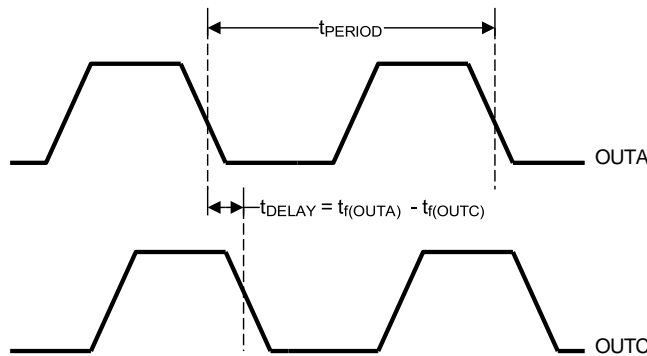

Figure 1. Same Applies to OUTB and OUTD
(2) Ensured by design. Not production tested.
(3) Output delay is measured between OUTA and OUTB, or OUTC and OUTD. Output delay is defined as shown below where: t_{r(OUTA)} = falling edge of OUTA signal, t_{r(OUTB)} = rising edge of OUTB signal (see Figure 1 and Figure 2).
(6) Output delay is measured between OUTA and OUTB, or OUTC and OUTD. Output delay is defined as shown below where: t_{f(OUTA)} = falling edge of OUTA signal, t_{r(OUTB)} = rising edge of OUTB signal (see Figure 1 and Figure 2).